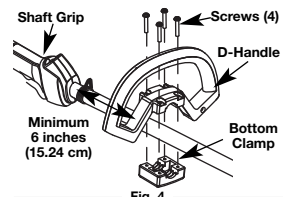

Fig. 4
1. Place D-handle over the shaft housing and onto the bottom clamp (Fig. 4). Place it a minimum of 6 inches (15.24 cm) from the end of the shaft grip.